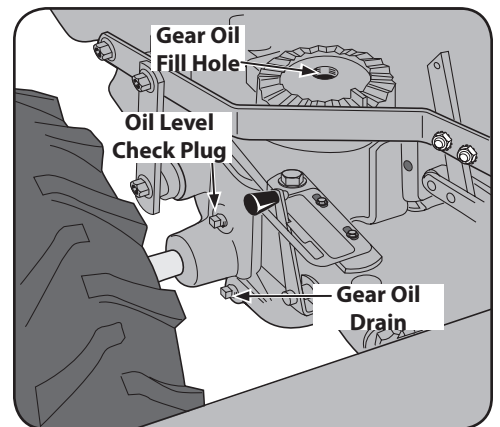

Figure 5-8
1. Place a shallow pan under the transmission gear oil drain plug. See Figure 5-8.